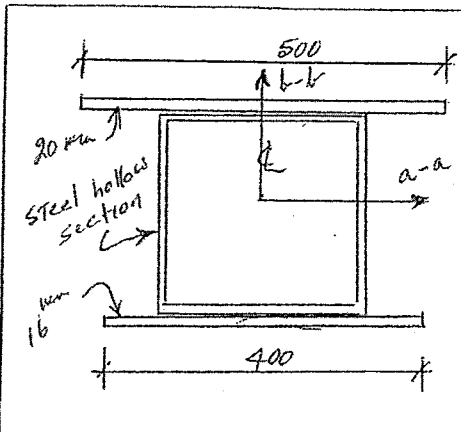

FIGURE A1
- A1. A steel cross-section fabricated from a hollow square section, 304.8 x 304.8, 12.7 mm wall thickness and 16 and 20 mm G40.21 300W steel plates, is shown in Figure A1. Determine the section moments of resistance about the two centroidal axes, a-a and b-b.